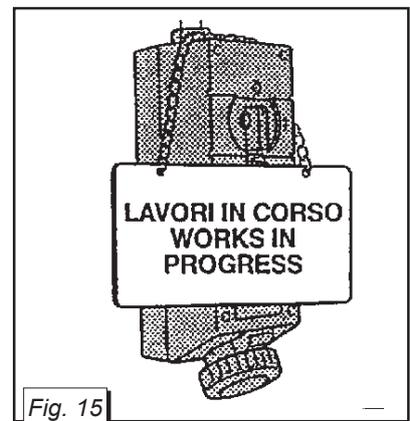

Fig. 15
- Use the isolator to signal the current operation (see fig. 15).